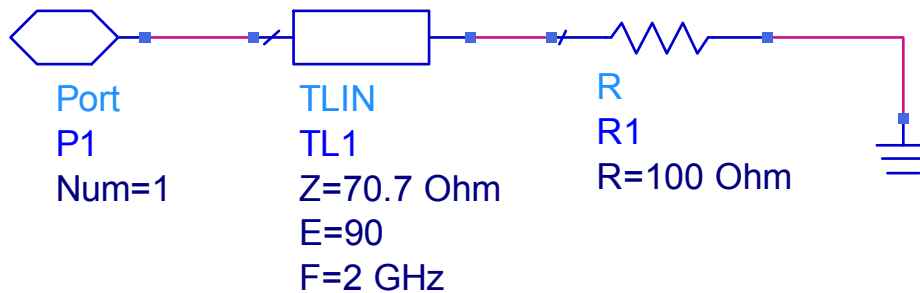

Figure 7: Ideal schematic for matchtb.dsn.
7. Create the equivalent circuit model for the capacitor shown below in Figure 7. You will use transmission line elements and substrate (MTAPER, MSUB) from the Tlines-Microstrip palette and lumped circuit elements. Place a VAR block in the circuit from the toolbar immediately above the schematic. Use ports as shown.